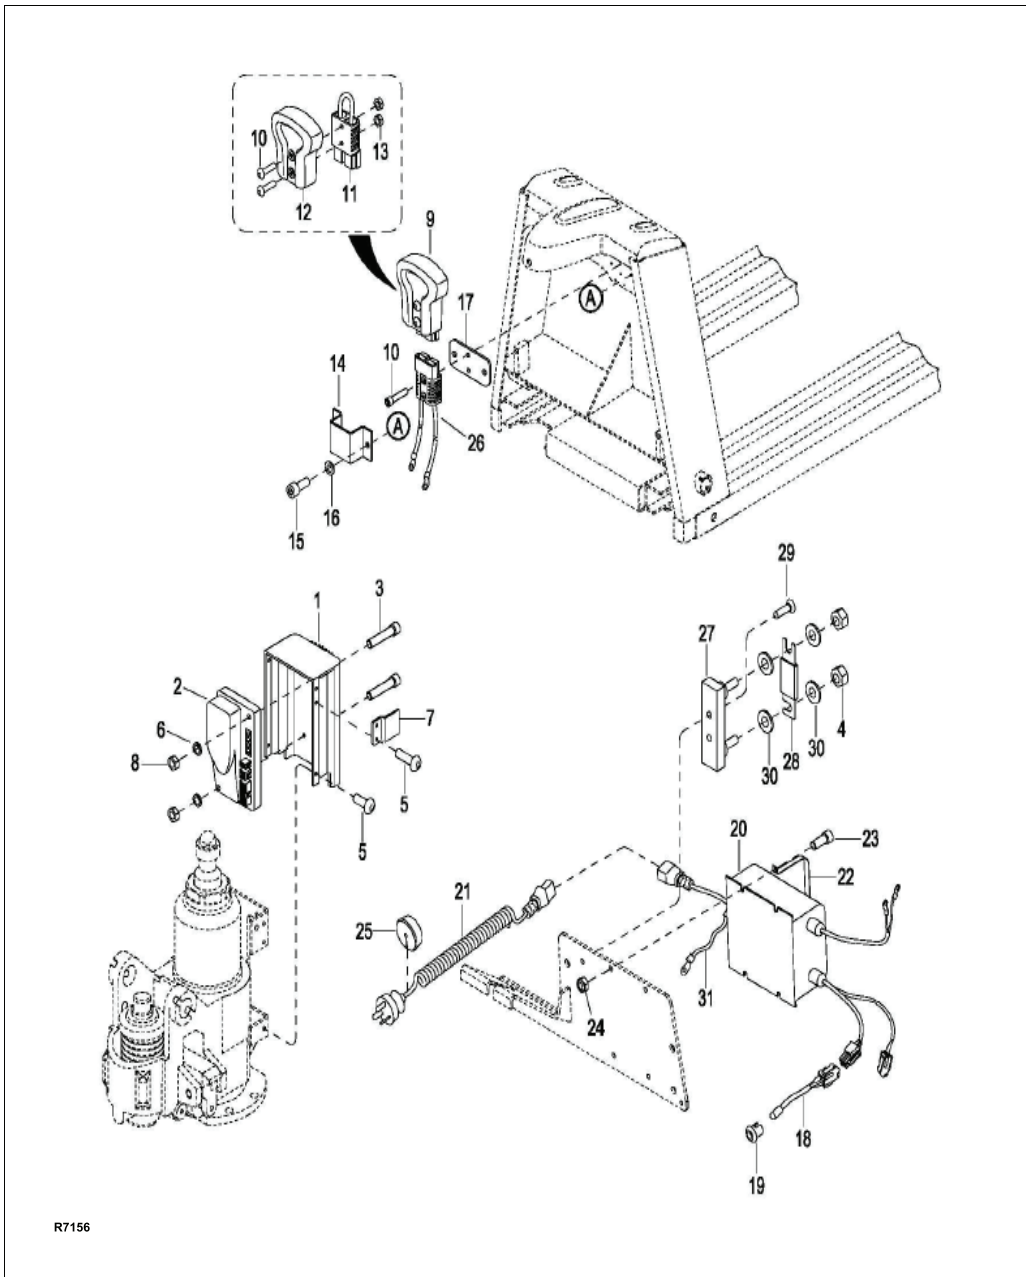
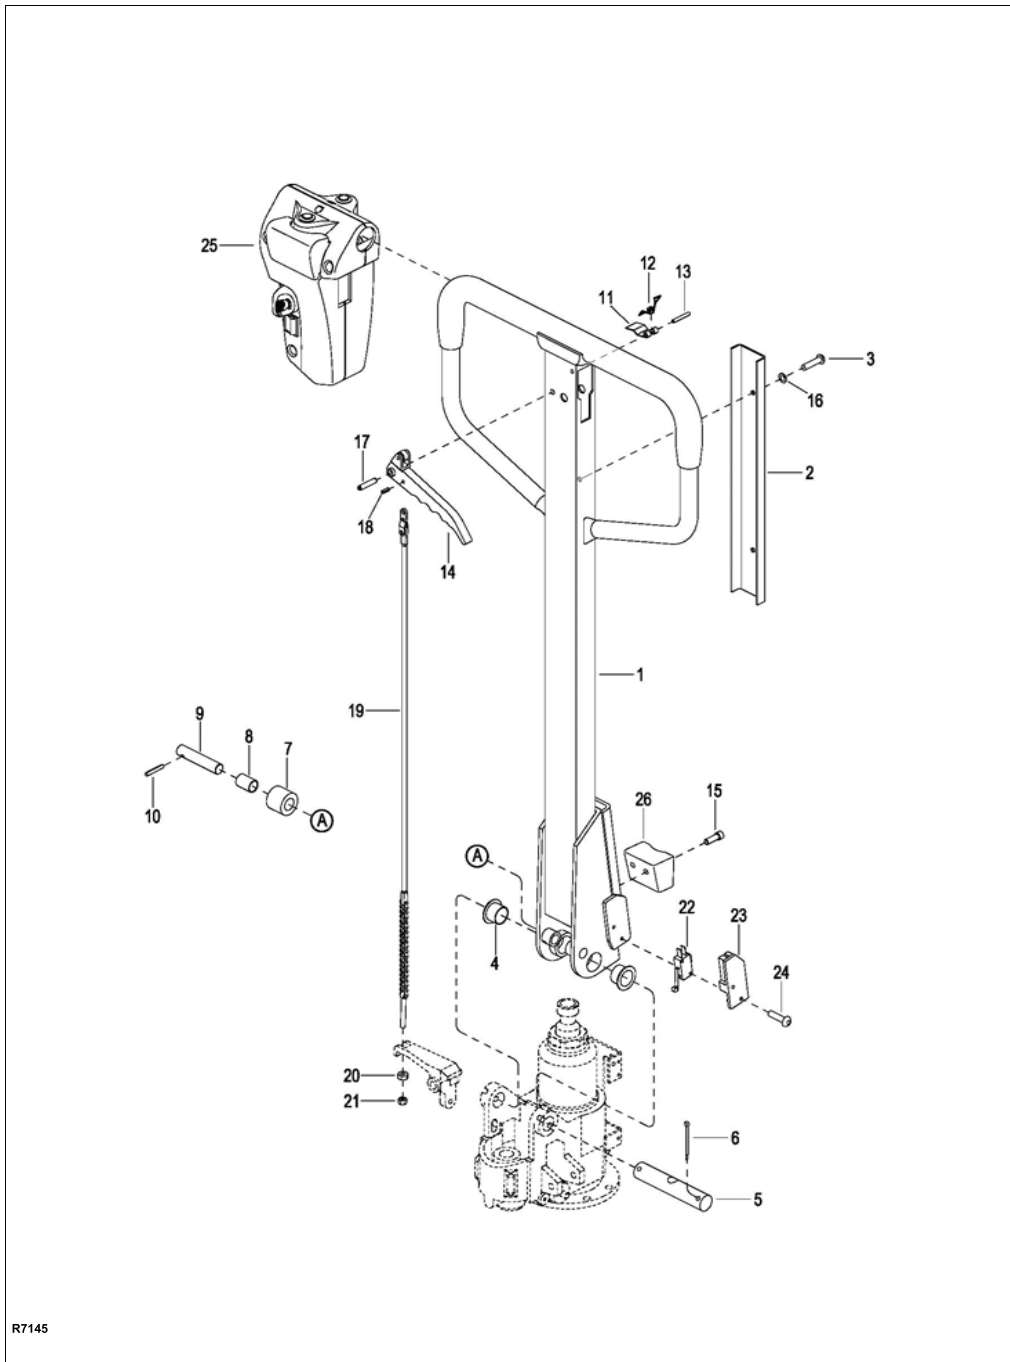
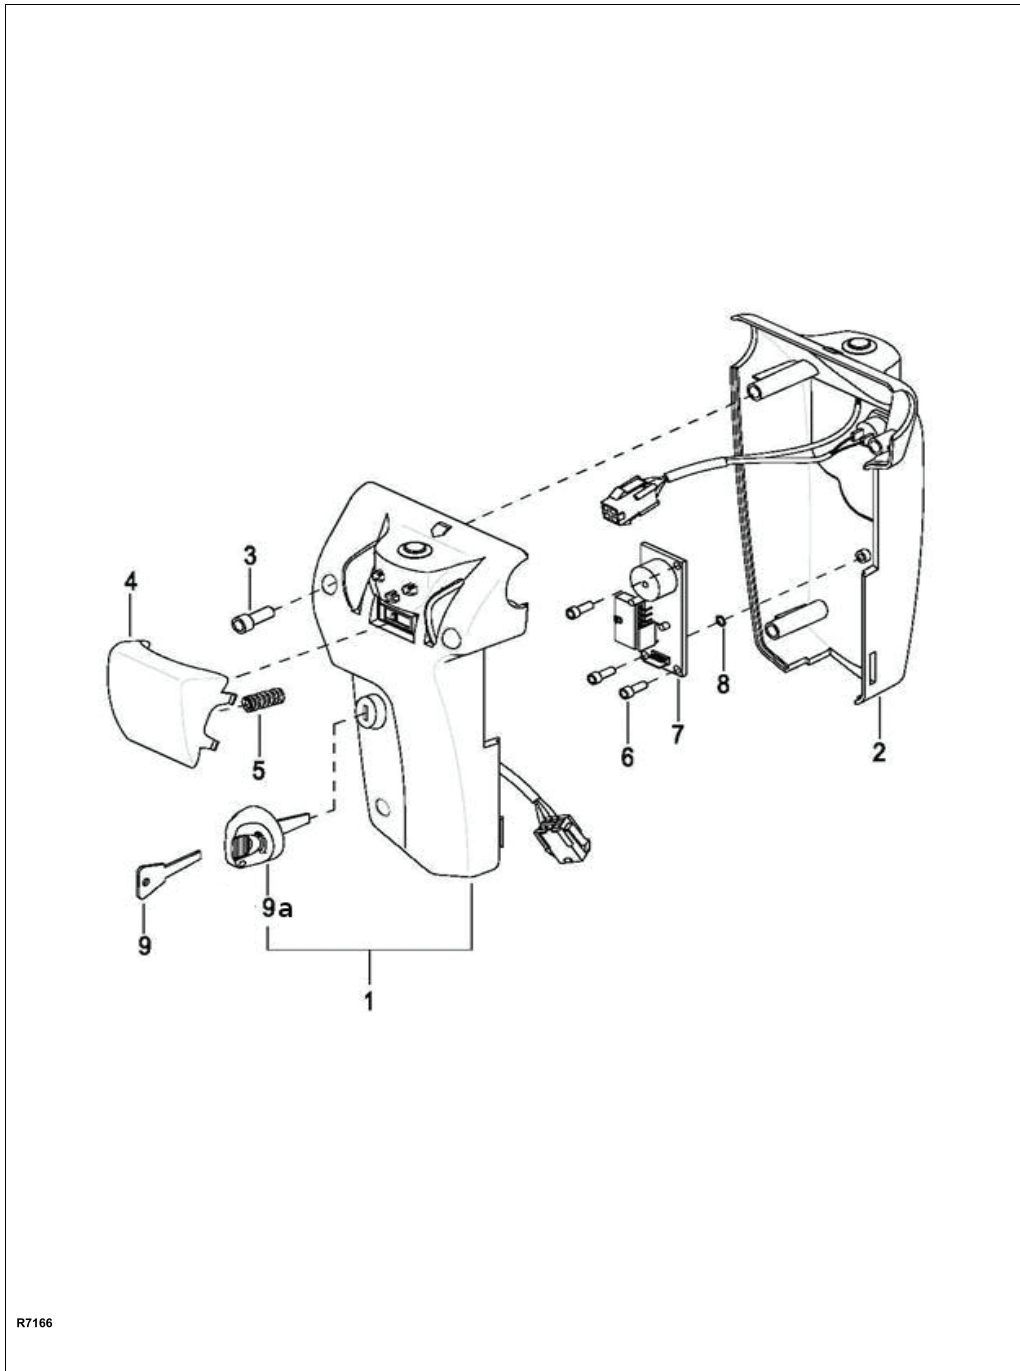

Figure 10-1 Electrical System
Figure 12-1 Steering Arm
Figure 12-3 Control Head - Used from Serial # E2410610
2. Remove screw (5), lock washer (6) and clamp (7) securing the wiring to the cover.
3. Remove remaining four screws (5), lock washers (6) and cover (1) and free the cover from the hydraulic assembly.
4. Tag and disconnect harness (2 and 3, Figure 12-11) from controller (2, Figure 10-1).
5. Tag and disconnect cables (2, 3, 4 and 6, Figure 12-12) from controller (2, Figure 10-1).
6. Remove two nuts (8), two lock washers (6), two screws (3) and separate controller (2) from cover (1).
1. Position controller (2, Figure 10-1) in cover (1) and secure with two screws (3), two nuts (8) and two lock washers (6).
2. Reconnect harness (2 and 3, Figure 12-11) to controller (2, Figure 10-1).
3. Reconnect cables (2, 3, 4 and 6, Figure 12-12) from controller (2, Figure 10-1).
4. Secure cover with controller to the hydraulic assembly with four screws (5) and cover (1).
5. Secure wiring to cover (1) with clamp (7), lock washer (6) and screw (5).
2. Remove cap (25, Figure 10-1). Tag and disconnect cable (21) from charger (20).
3. Tag and disconnect charger lead from LED lamp (18).
5. Remove four nuts (24), four screws (23) and two brackets (22). Remove charger (20).
1. Reposition charger (20, Figure 10-1) and secure with two brackets (22), four screws (23) and four nuts (24).
2. Reconnect charger lead to LED lamp (18).
4. Reconnect cable (21) to charger (20) and install cap (25).
5. Turn on power switch (8, Figure 12-3) or key switch (8) depending what is on the truck.
1. Turn off power switch (8, Figure 12-3) or key switch (8) depending what is on the truck.
2. Remove battery disconnect (9, Figure 10-1) from connector (26).
3. Tag and disconnect connector (26) from the battery and controller (2).
4. Remove two screws (15), two flat washers (16) and bracket (14).
5. Remove two screws (10) and remove battery disconnect (28) from the frame.
1. Position connector (28, Figure 10-1) on the frame and secure with two screws (10).
2. Install bracket (14) and secure with two screws (15) and two flat washers (16).
3. Reconnect connector (26) to the battery and controller (2).
4. Reinstall battery disconnect (9) to connector (26).
1. Disconnect wiring from the deadman switch (22, Figure 12-1).
2. Remove the two screws (24), bracket (23) and switch (22).
3. Position the new switch (22), bracket (23) and secure with the two screws (24).
4. Turn on power switch (8, Figure 12-3) or key switch (8) depending what is on the truck.